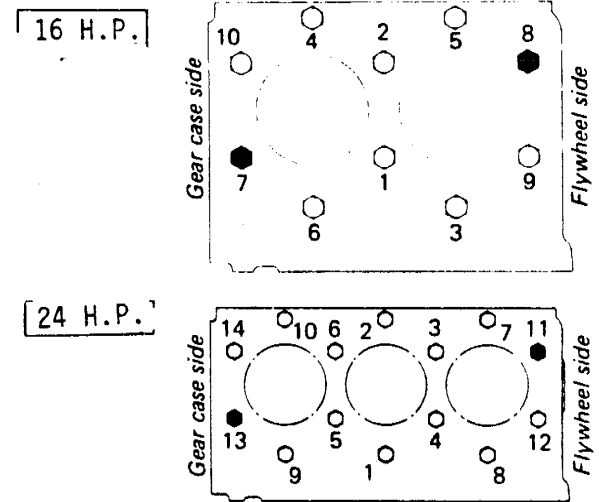

Fig. 23. Tightening of Cylinder Head Bolts
■ Tightening cylinder head capscrews (Fig. 23)
- (1) The tightening torque of the cylinder head capscrews is 54 to 58 ft.lbs. (7.5 to 8.0 kg-m). Numbers 7, 8 and 11, 13 (◆) in the diagram are studs. The nuts on these studs should also be tightened to this torque.
- (2) All the capscrews must be tightened uniformly. To do this, tighten all the capscrews in the order indicated on the diagram until they are just snug. Then tighten each one 1 (one) turn at a time in this same sequence each time until all have been tightened to the required torque.
- (3) The cylinder head capscrews should be re-tightened if the engine has not been used for a long time. The valve lash should also be adjusted each time the cylinder head capscrews are retorqued. If the cylinder head gasket has been replaced, run the engine for about 30 minutes and re-tighten the cylinder head capscrews as described above.